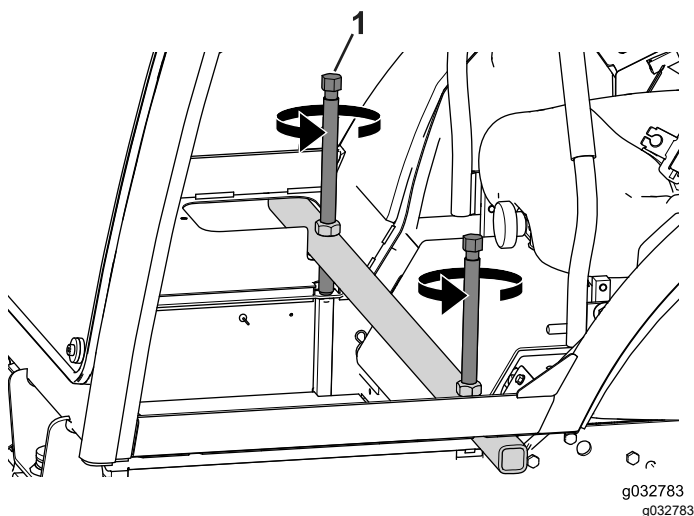

Figure 70
1. Alternate between turning the lift screws, a few turns at a time to lower the back of the cab to the machine (Figure 70).